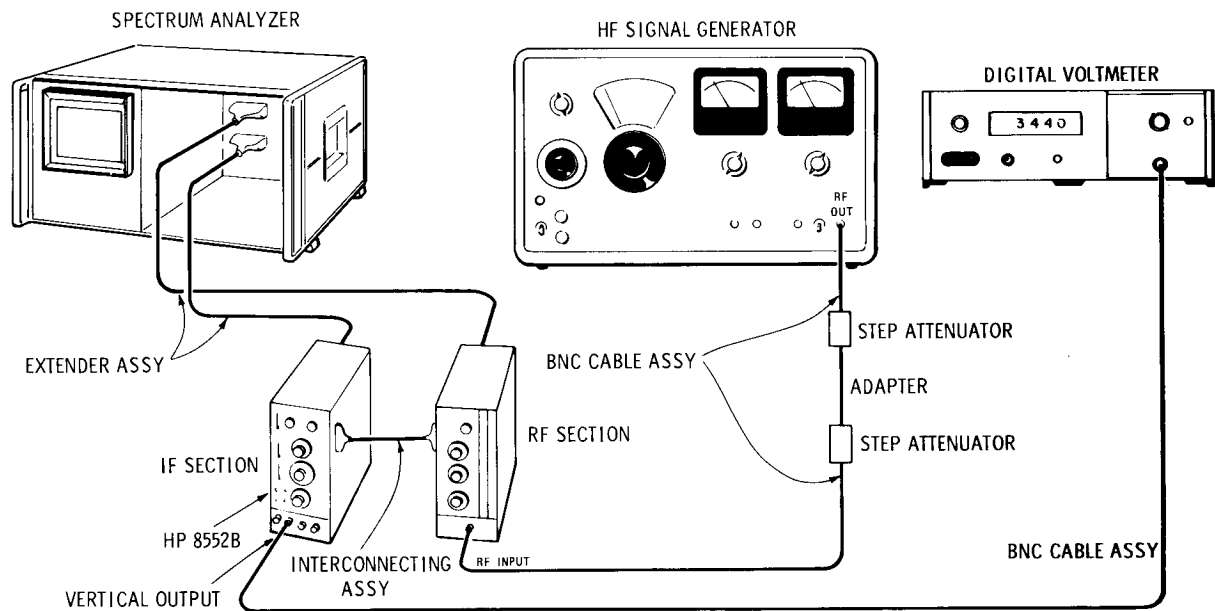

Figure 5-9. 3 MHz IF Gain Adjustment Test Setup
- 1. Remove the cover shield from the Al LC Filter Assembly, connect the test setup shown in Figure 5-9 and make the following control settings: